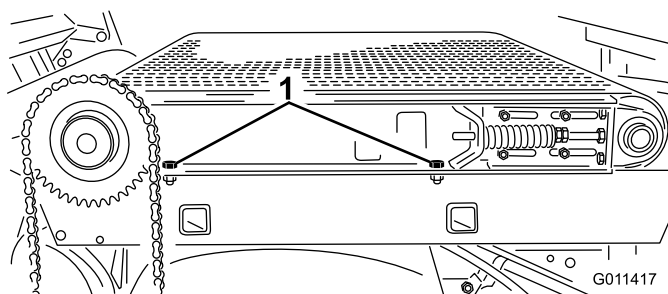

Figure 34
6. Loosen (2) capscrews, washers and nut, on right side of machine, securing slider bed to frame (Figure 34). Make sure fasteners are loose enough to allow slider bed to be tipped.